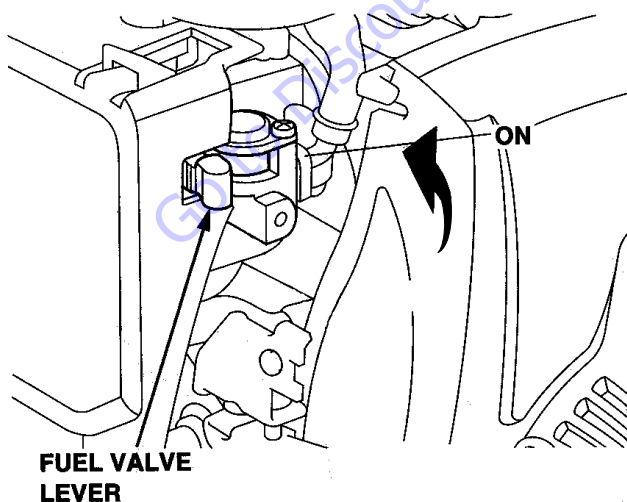

Figure 8. Engine Fuel Valve Lever (ON)
1. Move the engine fuel valve lever (Figure 8) to the **ON** position.